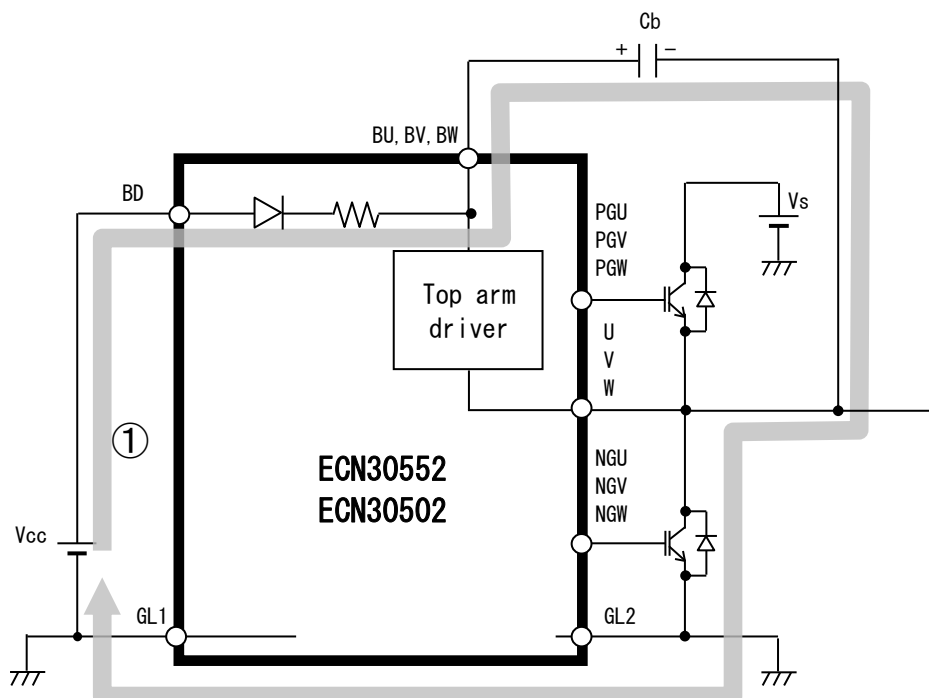

FIGURE 3.4.2.1 Bootstrap Power Supply
Figure 3.4.2.1 shows the simplified circuit diagram of the bootstrap power supply for the top arm drive circuit. When the output power devices of the bottom arms are turned on, the capacitor C_b is charged (through passage ①). The output power device On-duty is limited because this charge in the capacitor C_b is consumed as a power supply for the top arm drive circuit. Bootstrap system is more superior in terms of cost compared to floating power supply as a power supply for the top arm drive circuit. However, it is necessary to charge the capacitor at an initial state in order to drive the top arm drive circuit.